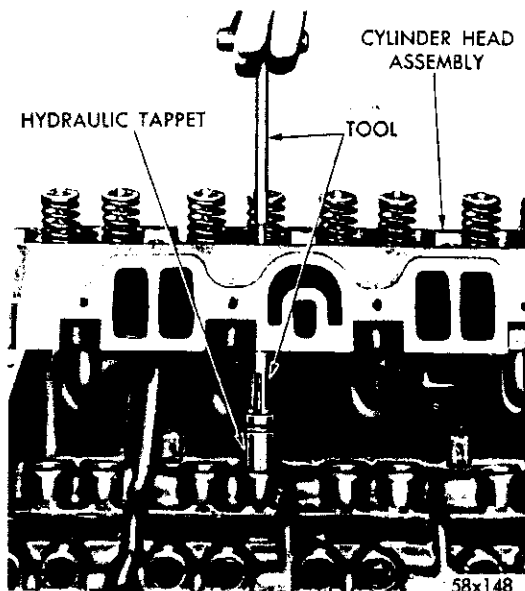

Fig. 21—Removing Tappet Using Tool C-3661
(1) The tappet can be removed without removing the intake manifold or the cylinder heads by following this recommended procedure: Remove the cylinder head covers.
(2) Remove the rocker arms and shaft assembly.
(3) Remove the push rods and place them in their respective holes in Tool C-3068.
(4) Slide the puller Tool C-3661 through the push rod opening in cylinder head and seat tool firmly in the head of tappet.
(5) Pull the tappet out of the bore with a twisting motion, as shown in Figure 21.